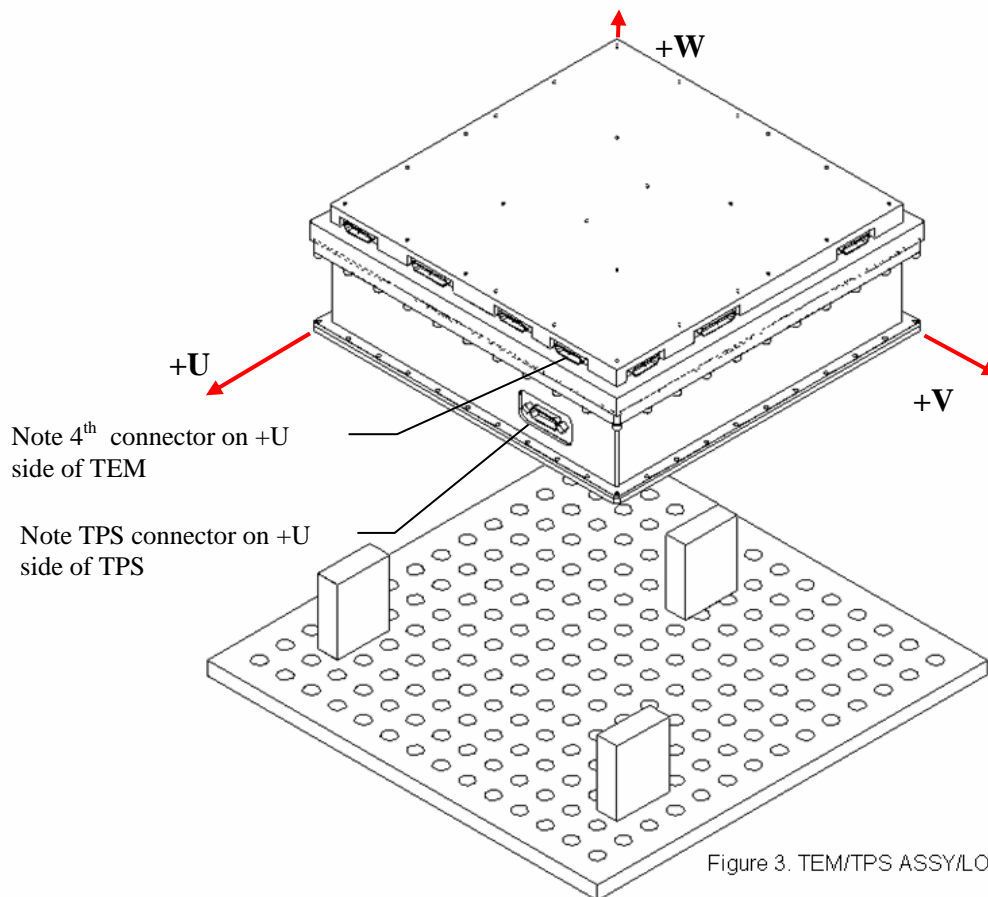

Figure 3. TEM/TPS ASSY/LOAD PLATE/LOAD CELLS
3. Slowly place the TEM/TPS assembly onto the load cells (see figure 3). Set the unit down on the load cells in any orientation, keeping the geometric center of the box within the triangle defined by the 3 load cells.
4. Measure the location of the box in its as-mounted position by measuring the location of the auxiliary coordinate system (U,V,W) with the CMM using the U and V edges of the box and bottom surface, as defined in figures 3 and 4. Note that the UVW-Coordinate system is fixed with respect to the unit, and must be defined as shown in Figures 3 and 4. Since the unit will be measured in a static bag, take care to make sure the static bag is flat (no wrinkles) against the box when measurements are taken by the CMM. Record the rotation angle of the U-axis of the box coordinate system with respect to the X-axis of the plate coordinate system. Record in the Data Table.